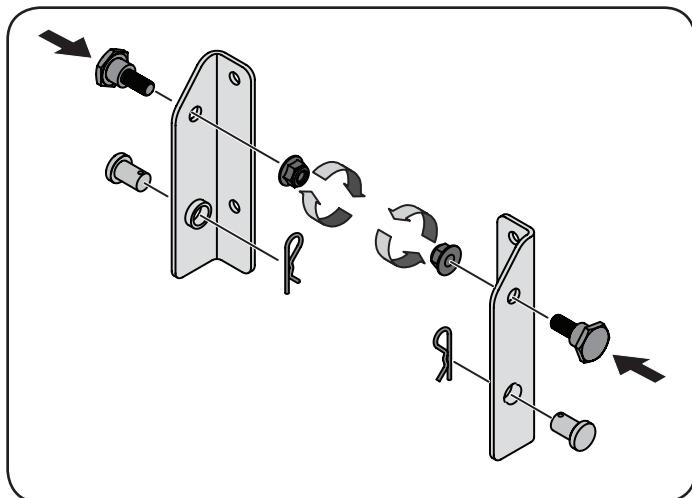

Figure 4
1. If not already installed by the factory, install a shoulder bolt from your hardware pack on each bracket, securing them with flange lock nuts also included in the hardware pack. Refer to Figure 4.
2. If already installed in the brackets, remove the clevis pins and clips, retain for later instructions. Refer to Figure 4.